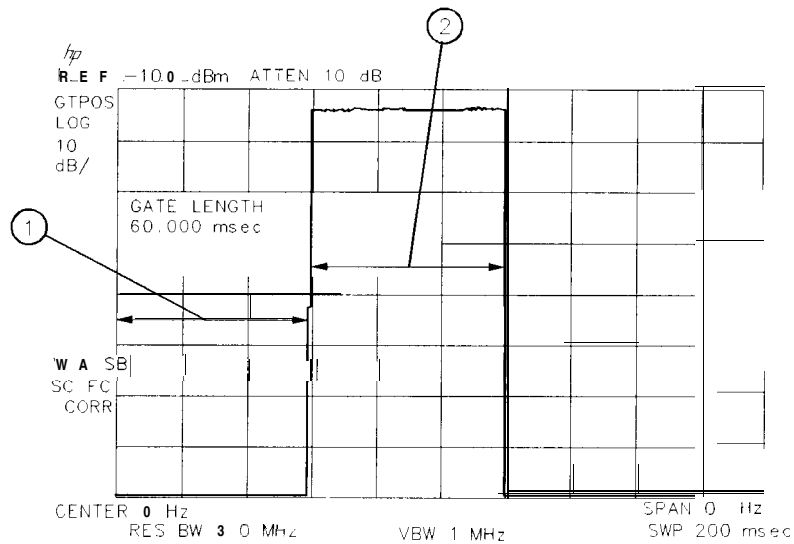

Figure 4-32. Gate On
- Press Previous Menu, **GATE ON OFF** (so that **ON** is underlined) (see Figure 4-32).
Item	Description of Items in Figure 4-32